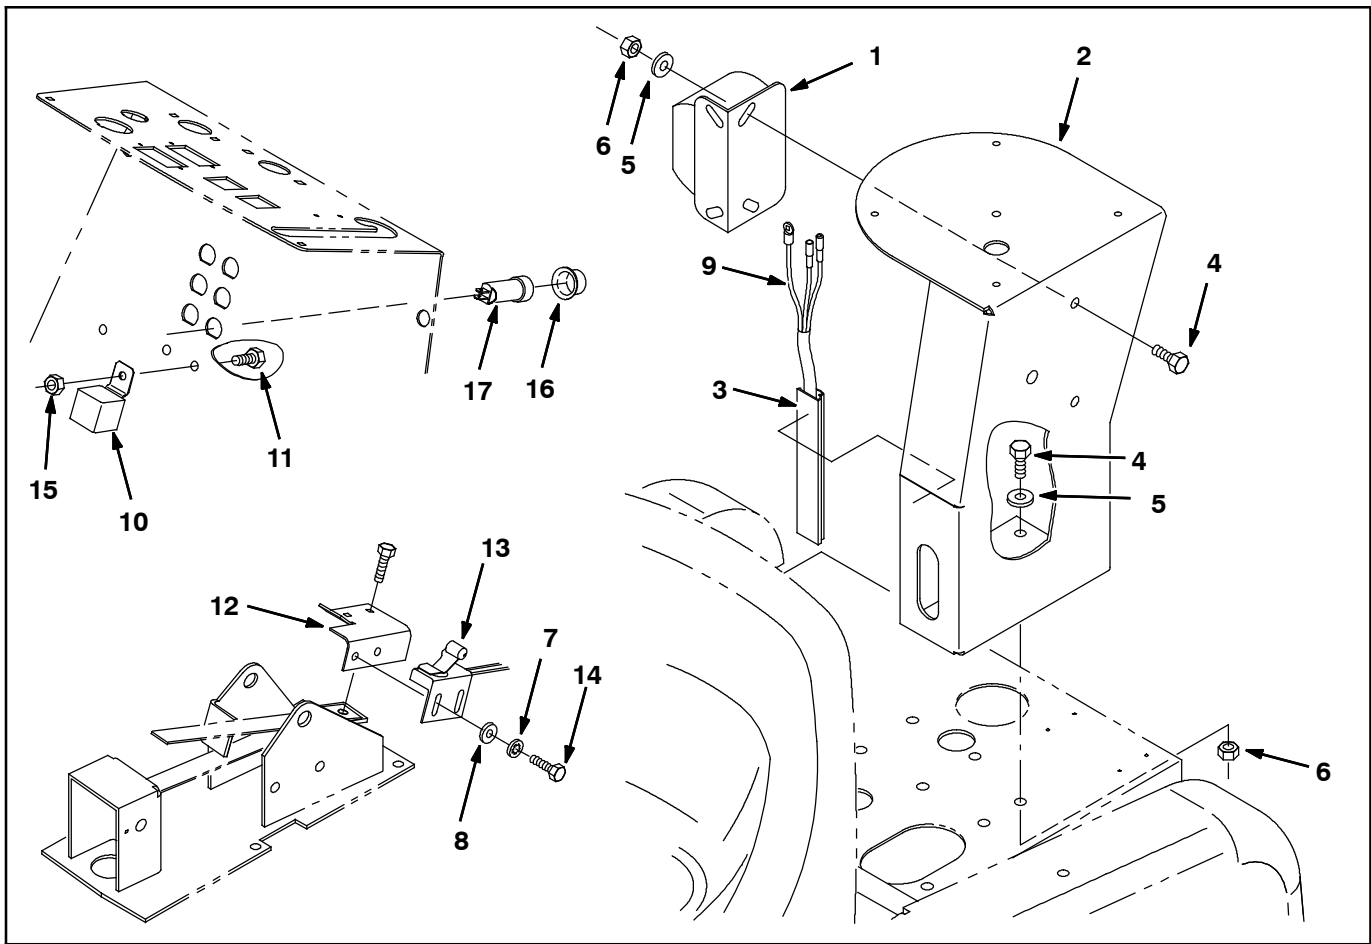

FIG. 1- Alarm Kit, Backup, Ped, CI [6100]- 83225
1. Remove the debris hopper. Lower and remove the filter to access the mounting holes for the pedestal (2).
2. Use two hex screws (4), two washers (5), and two flange nuts (6) to mount the pedestal (2) to left rear corner of machine. (Fig. 1)
3. Connect the backup/warning harness (9) to the backup alarm (1). (Fig. 1 / Fig. 4)
4. Use mounting hardware to mount the backup alarm (1) to the pedestal (2). (Fig. 1)
5. Connect the backup/warning harness (9) to the main wire harness. (Fig. 1 / Fig. 5)
6. Open the circuit breaker panel and use a pan screw (11) and lock nut (15) to install the relay (10) onto the back side of the panel. (Fig. 1)
7. Install the 15- Amp circuit breaker (17) and circuit breaker boot (16) onto the circuit breaker panel. (Fig. 1)
9. Use the hex screws (14), lock washers (7), and flat washers (8) to mount the roller switch assembly (13) to the switch mounting bracket (12). (Fig. 1)
11. Mount the switch (13)/switch mounting bracket (12) to the propel pedal. (Fig. 1)
13. Connect the cable from the switch (13) to the main wire harness. (Fig. 1 / Fig. 4)
14. Install the vinyl duct (3) onto the pedestal (2) and insert the backup/warning harness (9) into the vinyl duct. (Fig. 1)